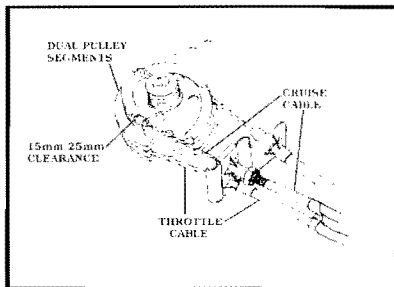

Figure 12
5. Attach the T-BAR ADAPTOR to the BEAD CHAIN CONNECTOR. Make sure to slide the CONNECTOR COVER over the BEAD CHAIN CONNECTOR. Figure 12